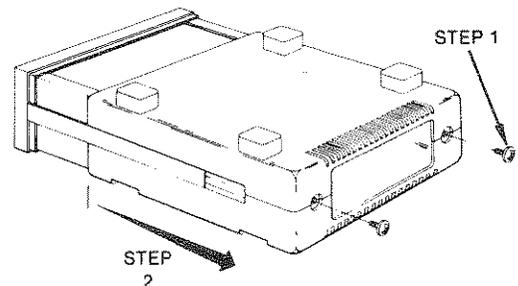

Figure 2-1. Top and Bottom Cover Removal
To verify the line voltage (or change the fuse), the operator must first remove the top and bottom covers. Remove the top and bottom using the following steps and figure 2-1.
9. Secure covers to the chassis assembly using two screws as shown in figure 2-1.